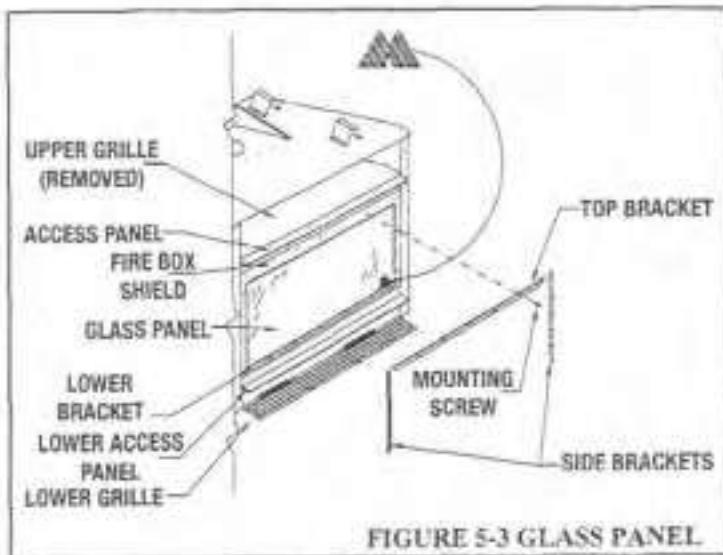

FIGURE 5-3 GLASS PANEL
5. Remove the four screws on the left and right side brackets and set them aside. Refer to Figure 5-3.
**WARNING:** YOUR FIREPLACE HAS A TEMPERATURE-CUSTOMIZED GLASS PANEL THAT HAS AN INSIDE AND OUTSIDE SURFACE. THE GLASS OVERHEATS AND FRACTURES IF YOU DO NOT INSTALL THE GLASS PANEL AS SHOWN IN FIGURE 5-3.